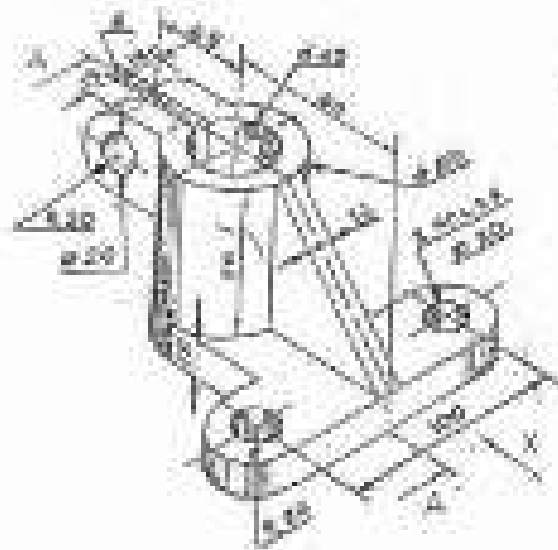

Fig. 1
- b) Design and draw a dimensional drawing in three views with one sectional view of a milling fixture, for producing the 36 mm slot at the component shown in Fig. 1. Show clearly the details of location, clamping and setting of cutter. Assume this as a final operation. [26]